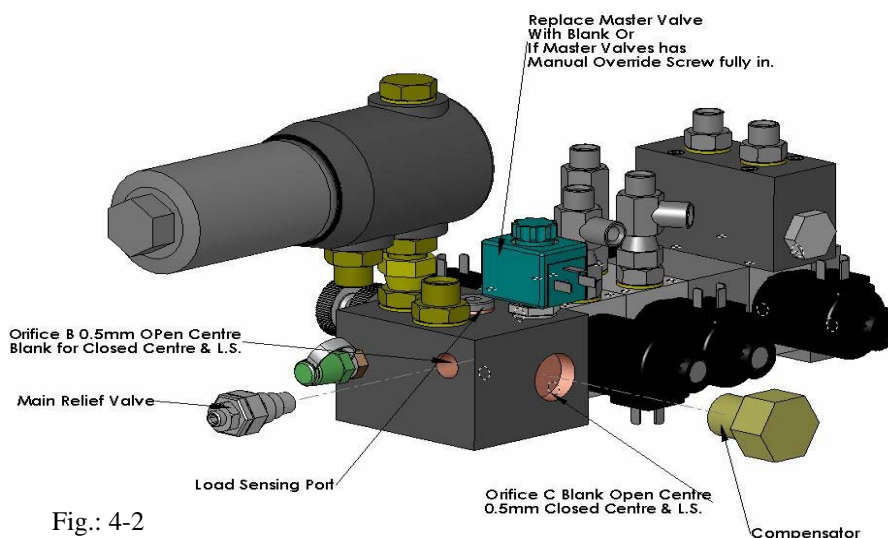

Fig.: 4-2
Some tractors, (like John Deere), have a hydraulic system that require the valve on the machine to allow no flow when no function is operating (Closed center). To fit this machine to a tractor with a closed center system the following changes are required: (See Fig 4.2)
Many modern tractors have a "Load Sencing" (LS) hydraulic system. This is most efficient as the pump remains on standby, pumping no oil until it gets a signal from the machine. This signal is transmitted in the form of hydraulic pressure via a hose for the LS port on the 1300EH inlet block to the LS connection on the tractor. See Fig 4.2.